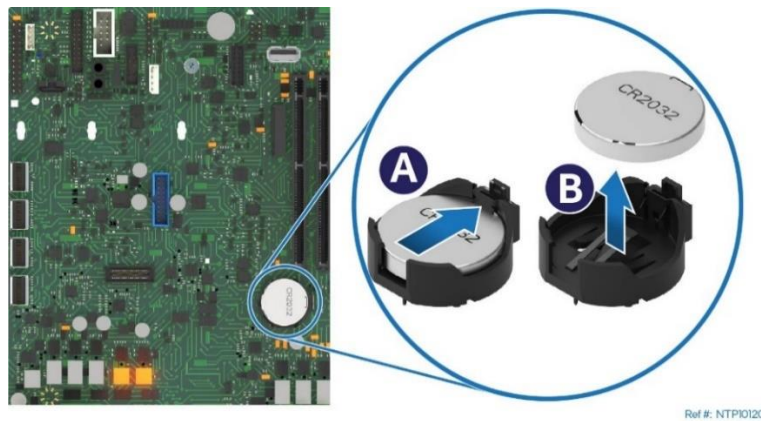

Figure 94. System Battery Removal
5. Remove the battery from the server board (see Figure 94).